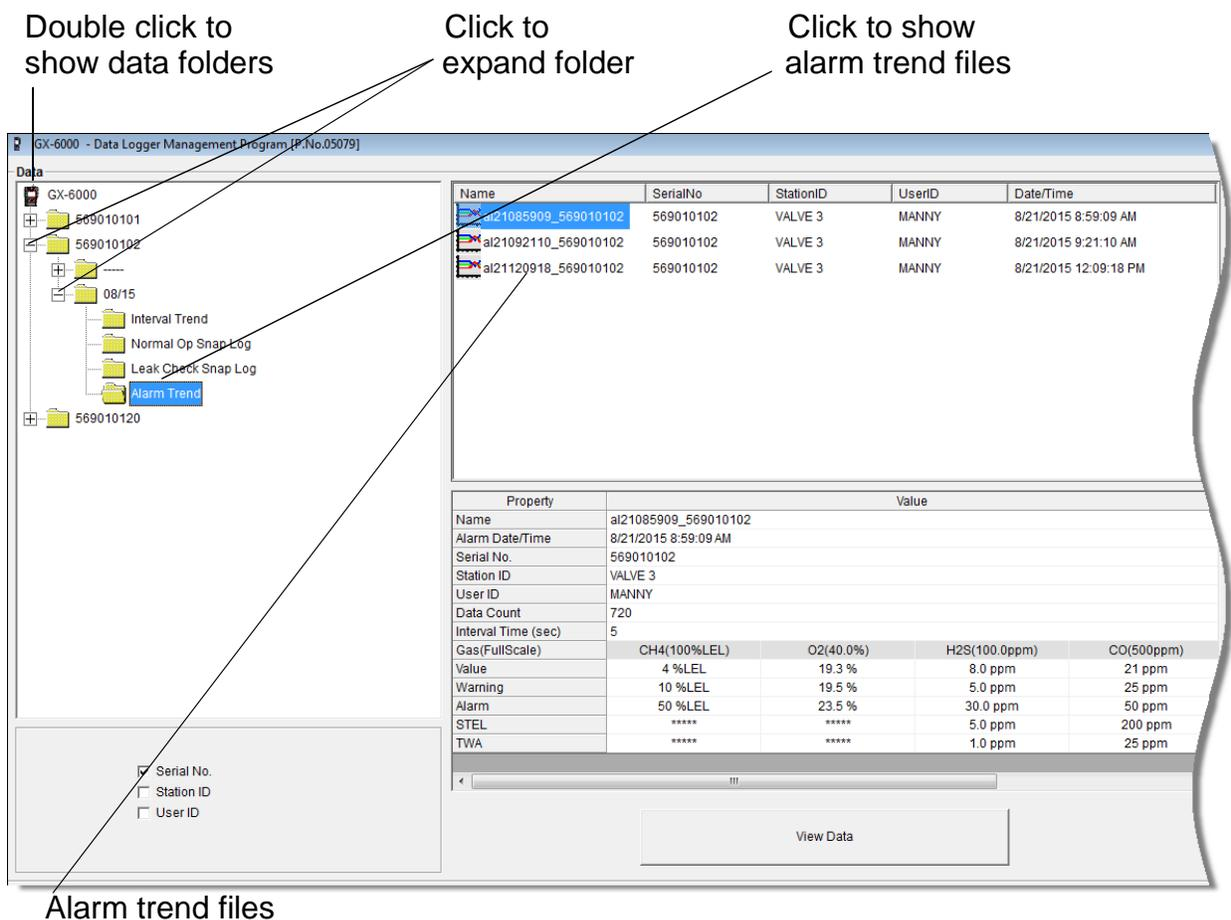

Figure 46: Data Window - Selecting Interval Trend Data Files
frames, one above the other, with the data table in the lower frame and the summary information shown in the upper frame. The summary information is the same as the information shown in the lower right frame in Figure 46.
- If you click the **Summary** button, the data window will split into two frames, one above the other, with the graph in the lower frame and the summary information shown in the upper frame. The summary information is the same as the information shown in the lower right frame in Figure 46. To return to the one frame format, click **Summary** again.